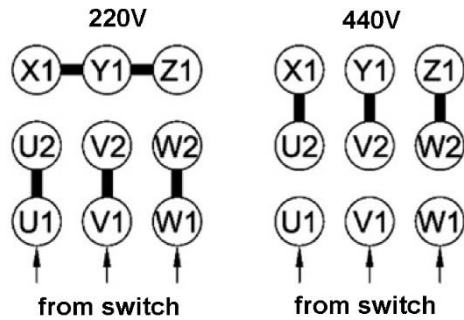

Figure 4: Motor wiring diagram
12. A wiring diagram for the motor is shown in Figure 4, and will also be on a label underneath the motor plate cover.